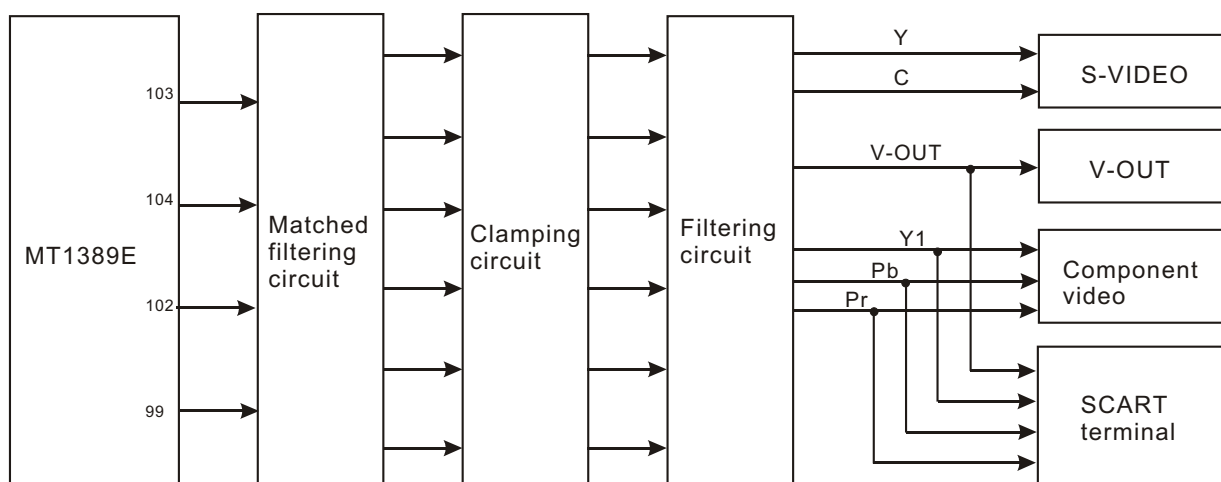

Figure 3.2.9.1 Video circuit block diagram
1. Video circuit block diagram is shown in the figure 3.2.9.1:
2. Working principle: brightness, chroma, CVBS and component video signals decoded by U1 (MT1389D), through low-pass filtering and clamping, are sent to the relevant terminal for output. Take Y signal as instance, we will introduce working principle of clamping circuit, shown in the figure 3.2.9.2: